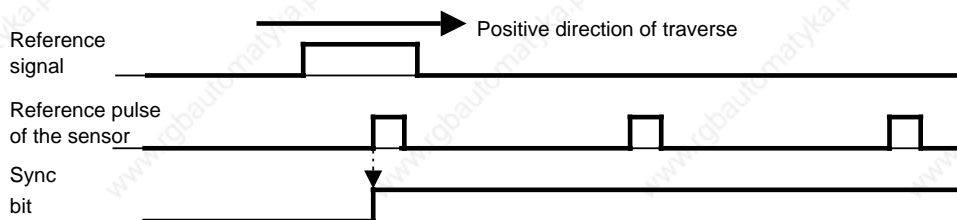

Figure 16-18. Position of the Reference Point (SYNC Bit=1) within the Reference Signal Range
- The first reference pulse that the module recognizes after a leading edge of the reference signal synchronizes the module (see figures 16.18 and 16.20a).
The figures 16.18, 16.19 and 16.20a illustrate different possibilities for a reference traversing path. Figure 16.20b illustrates a reference traversing path, which is terminated without synchronization: